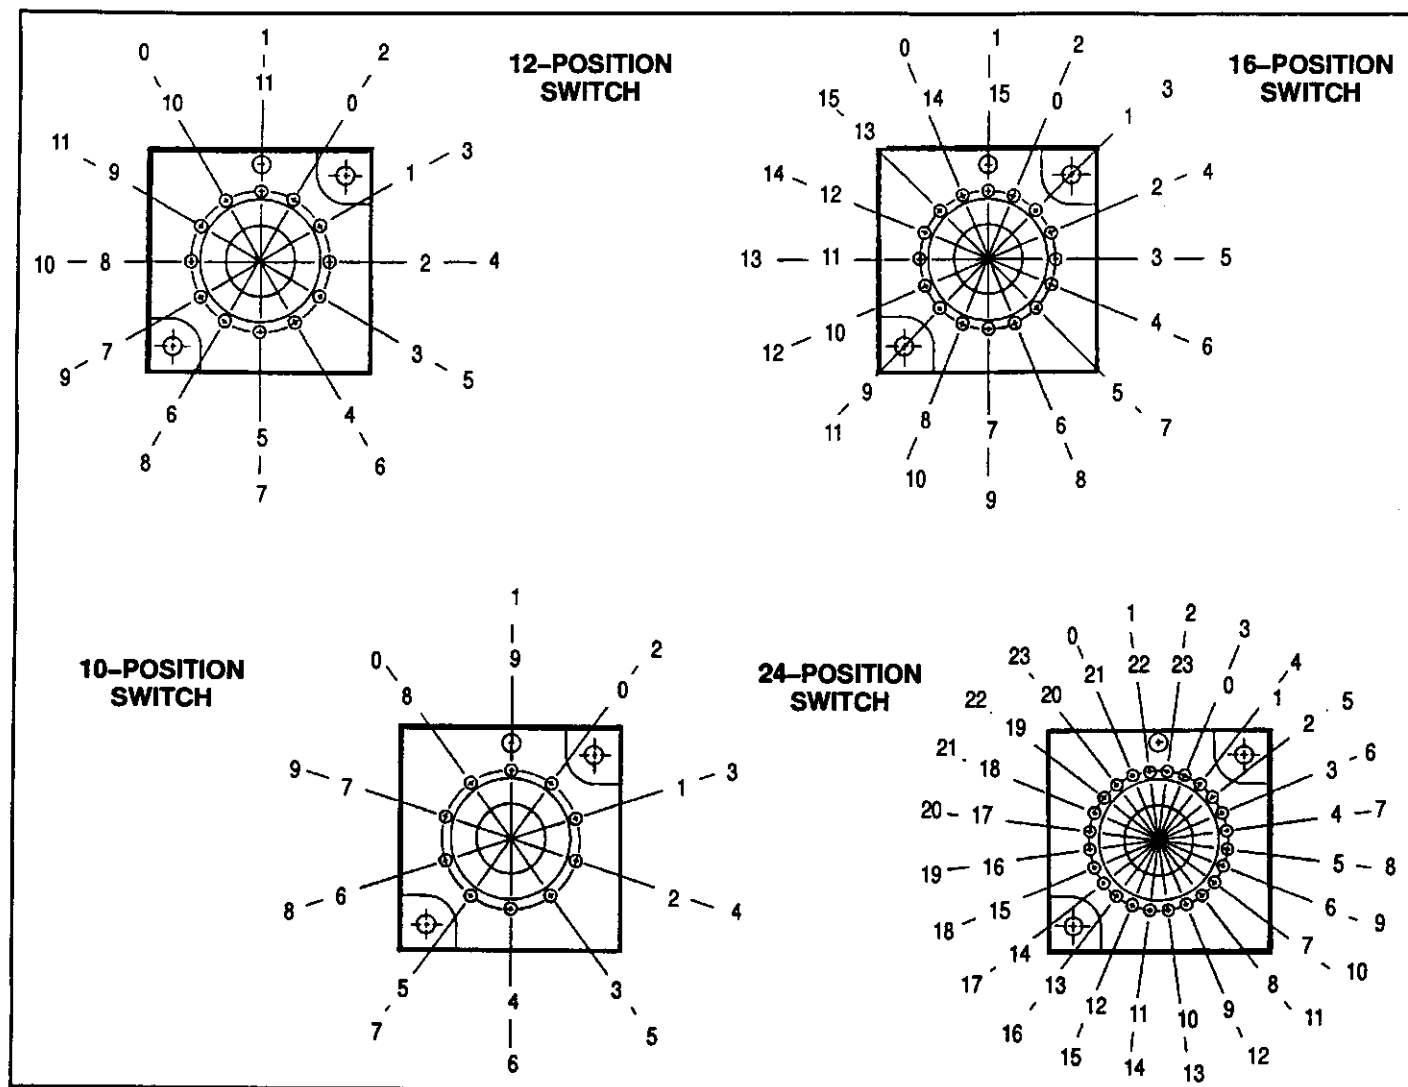

Fig. 4
Two ring/pin stops are supplied attached to each switch shaft in a nonfunctional position. They are used to limit rotation of the switch shaft to any desired switch position (see Figure 4). If stops are not used, remove them before panel mounting.
In Figure 4 the inner circle of numbers represents switch stop positions for CLOCKWISE rotation and the outer circle represents switch stop positions for COUNTERCLOCKWISE rotation.
3. Determine the position(s) at which the selector is to stop and, using a scribe or other suitable tool, punch hole(s) in webbing at stop position(s). See Figure 4.